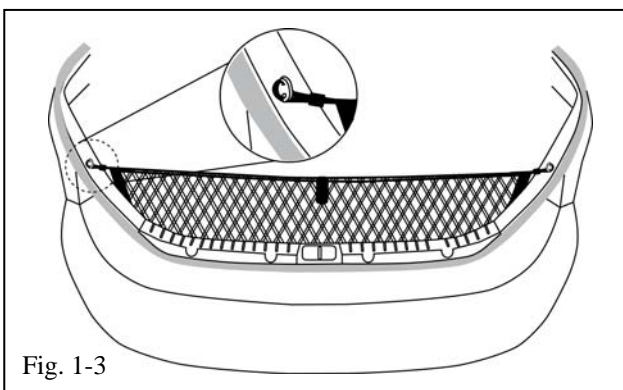

Fig. 1-3
- (e) Attach the loops at the top of the net to the upper T-anchors (Fig. 1-3).
-  (f) Confirm completed assembly. Make sure net handle is facing out toward the rear of the vehicle (Fig. 1-3).